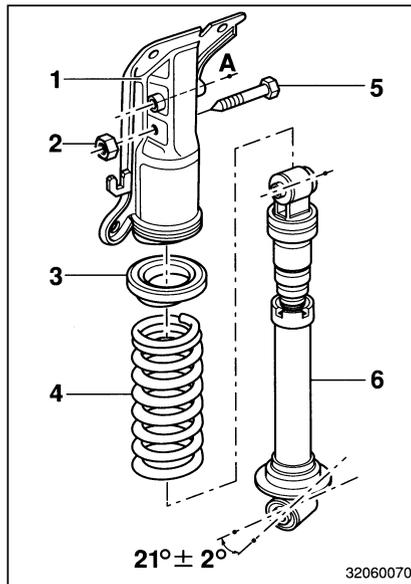

Figure 7 Rear suspension strut (quattro drive)
- Remove the screws connecting the adapter (Figure 7/1) to the wheel arch (from the inside); push the wheel bearing housing downwards and remove the strut (Figure 7/6) and axle link.
- Unscrew the fastening nut (Figure 7/2) and remove the screw (Figure 7/5).
- Remove the adapter (Figure 7/1) and damping ring (Figure 7/3).